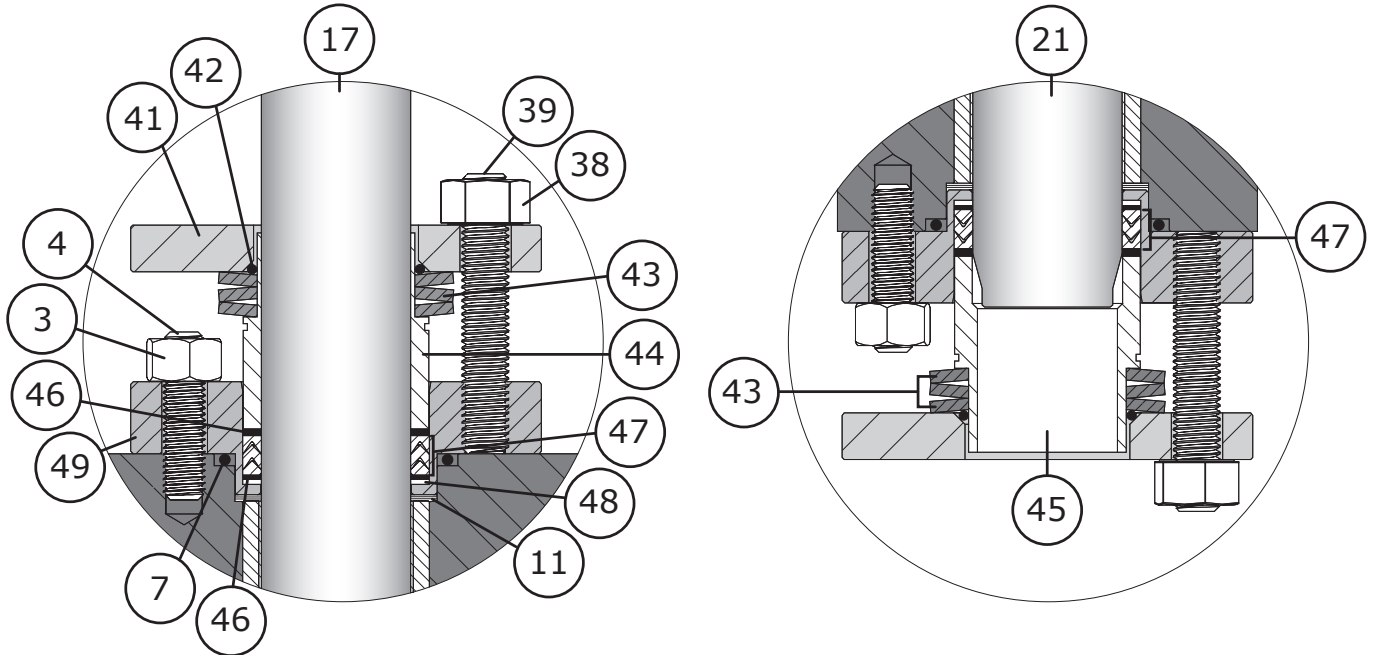

Figure 44 6 Inch Valve Inboard and Outboard Live Loaded Packing Arrangement
- 20 Install the spring washers (Key 43) on to the inboard packing follower (Key 44) in the appropriate order and orientation shown in Figures 44, 45, 46, 47. Secure the spring washers in place using the packing flange o-ring (Key 42). Install the newly built spring pack assembly (Keys 42, 43, 44) in to the packing box (Key 49).